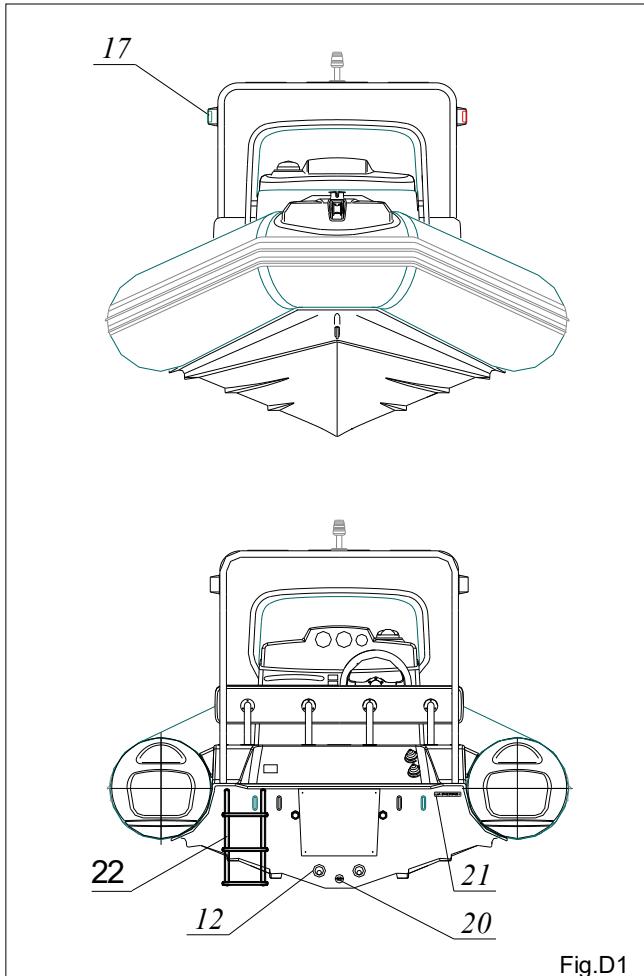

Fig.D1
The boat series "NAVIGATOR" consists of the next main components (Fig. D1):
Also there are the following elements fitted on the tube (Fig. D1):
- doubled rubbing strake (3, Fig.D1);
- safety handles (4, Fig.D1);
- bow step-plate with a special moulded antiskid coating (6, Fig.D1).